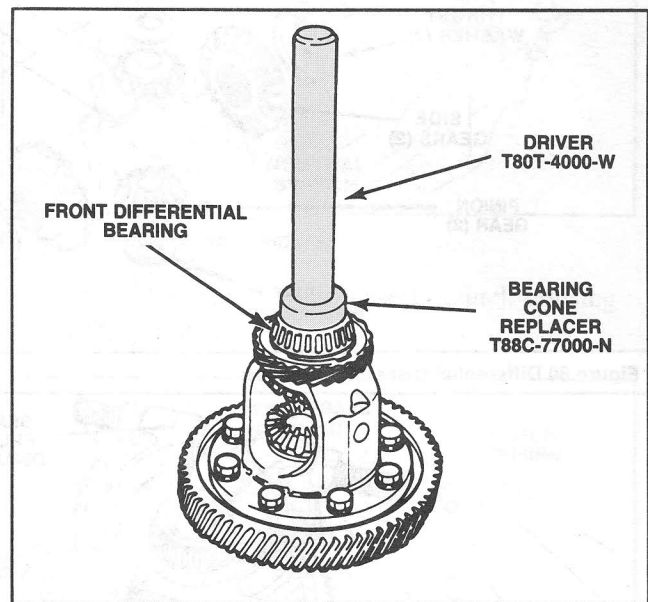

Figure 85 Differential Bearing Installation
2. Install the differential bearings, using Universal Drive Handle T80T-4000-W and Bearing Cone Replacer T88C-77000-N. (Figure 85).